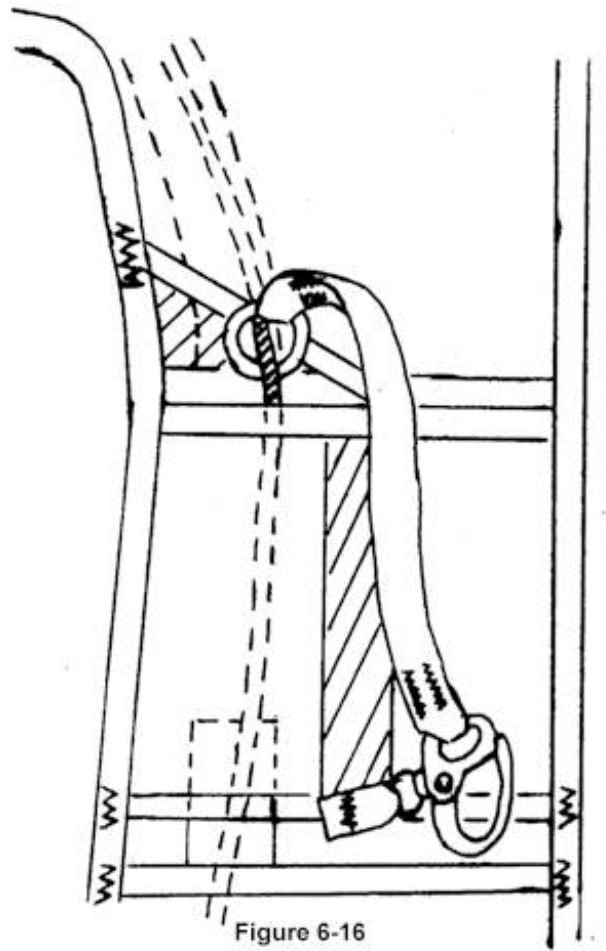

Figure 6-16
Step 14 Thread the Ripcord through the housing at this time (Install the RSL if used. Refer to RSL Installation instructions in section 8). (*Figure 6-16*)